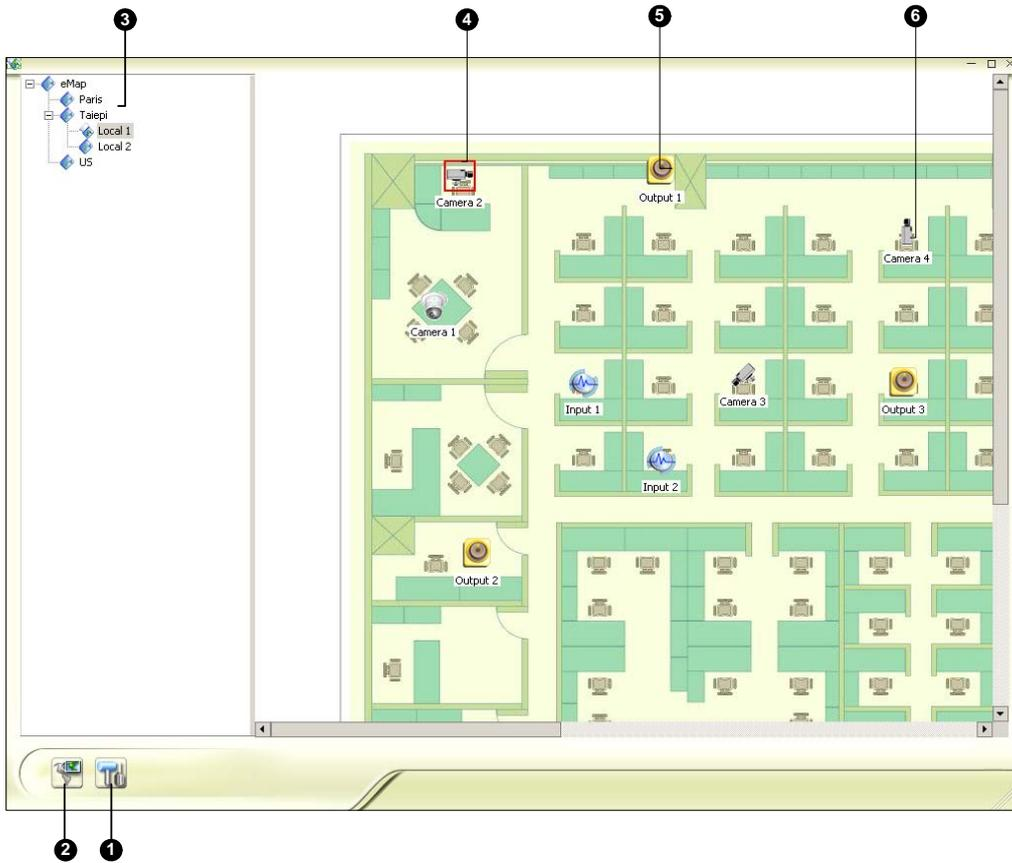

Figure 9-4 The E-Map Viewer Window
1. Click the **Popup Settings** button (No.1, Figure 9-4). Select desired cameras and input devices for the application, and specify **Dwell Time** for the interval between two pop-up maps.
2. Click the **Toggle Popup** button (No.2, Figure 9-4) to enable the function.